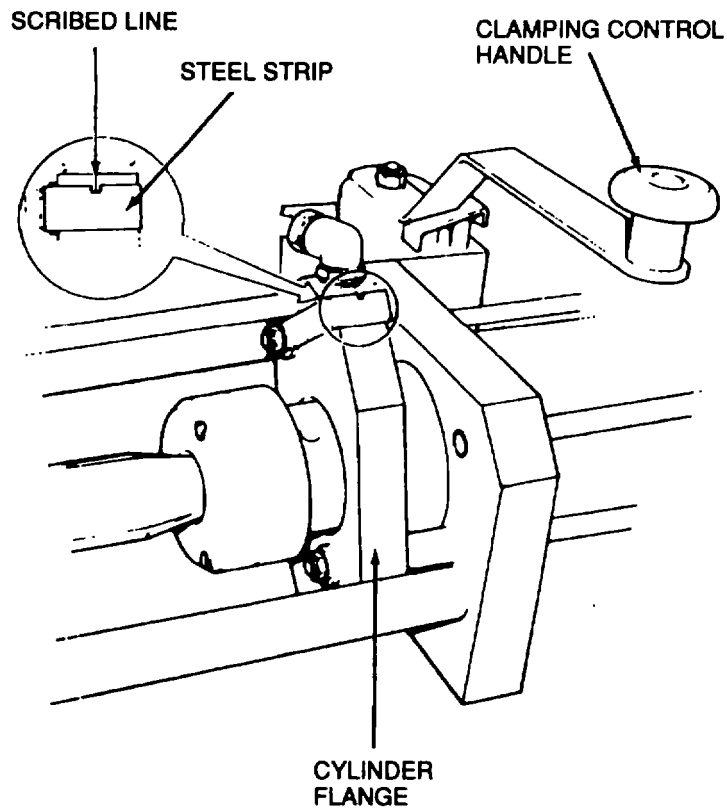

Figure 6-27. Checking Alignment In Test Stand
- (9) Check that the scribe mark on the cylinder flange aligns with the notch steel strip (Figure 6-27). If the scribe mark and notch do not line up, the injector has been incorrectly installed, or the wrong cam or adapters have been used. Make corrections as necessary in accordance with steps (3) through (8), above.